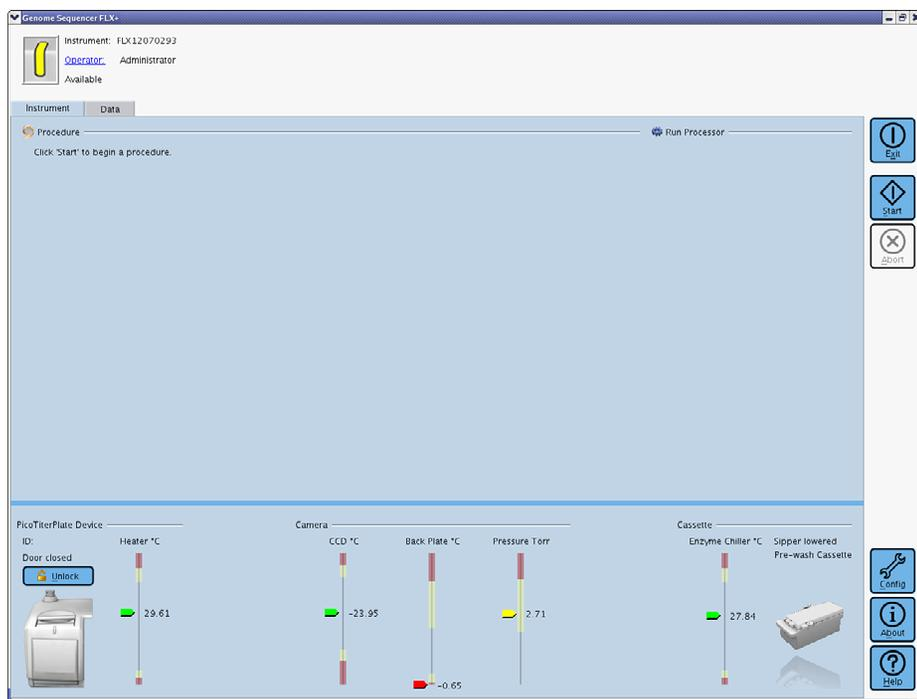

Figure 3: The GS Sequencer application window after an Operator logs in
- To login, select your user name in the Operator ID dropdown menu and click "Sign In". The main window of the GS Sequencer application will open (Figure 3).